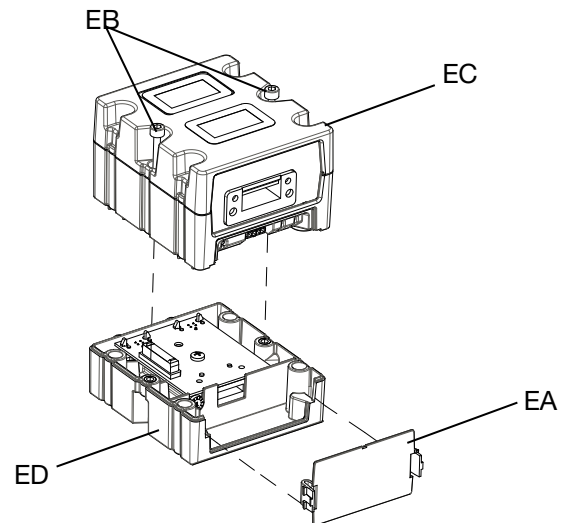

Fig. 56: Disassembling the CGM
4. Remove the access cover from the CGM (EA). Loosen the two screws (EB) and remove the CGM (EC) from the base (ED) as shown in FIG. 56.